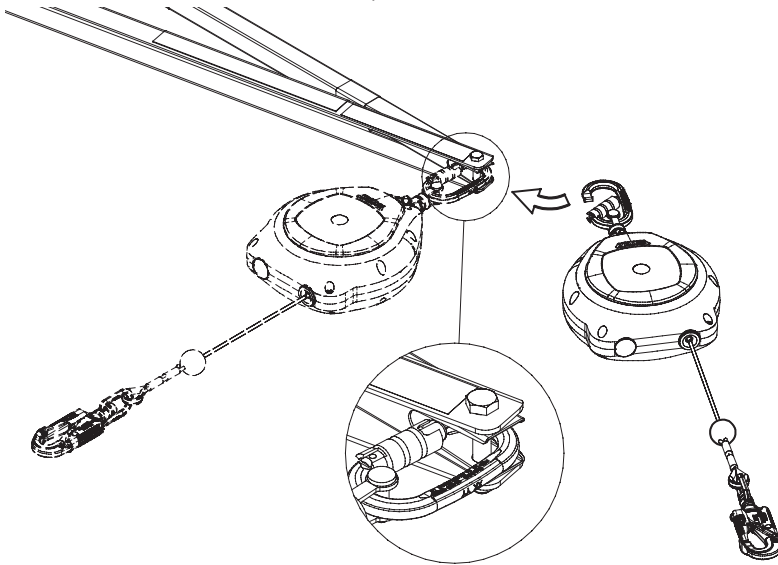

Figure 29. Attaching a 6,2m Falcon Fall Arrest Block.
10.2. Connect the Fall Arrest Block. Make sure that the component is correctly attached and secured to the SkyReach Anchor. Figure 29 shows how the 6,2 m Falcon Fall Arrest Block is attached to the anchor point.